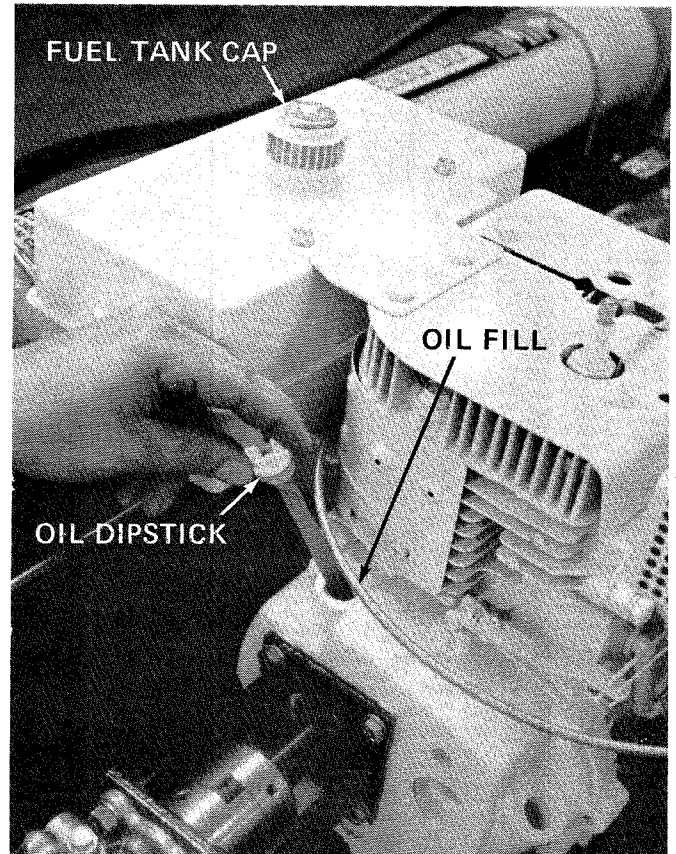

FIGURE 15
2. Fill fuel tank with one gallon of regular grade gasoline. See figure 15.
3. Engine will require 2-3/4 pints of SAE 30 or 10W30 oil. Remove oil dipstick. See figure 15.